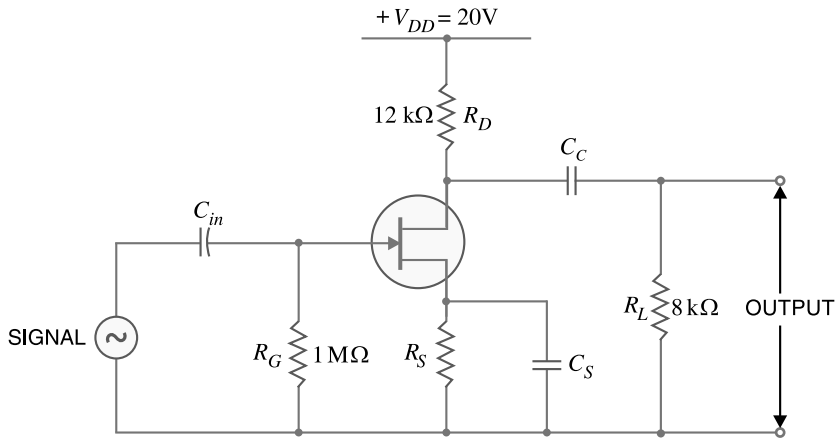

Fig. 17.45
**Example 17.27.** The *n*-channel JFET amplifier of Fig. 17.45 has a transconductance  $g_m = 1 \text{ mA/V}$ . If the source resistance  $R_S$  is very small as compared to  $R_G$ , find the voltage gain of the amplifier.